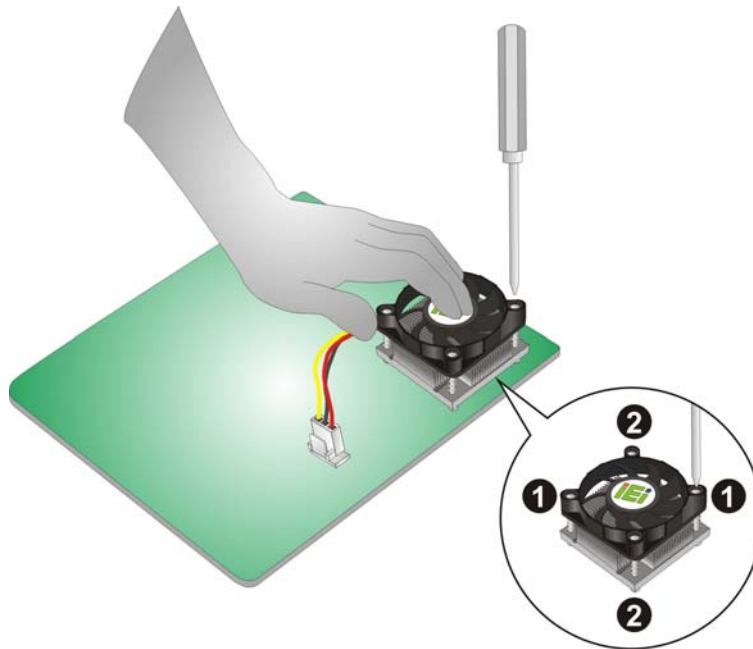

Figure 4-5: Secure the Cooling Kit
- Step 4:** **Place the cooling kit onto the CPU.** Push down the fan with some pressure to secure the cooling kit with the support bracket. See **Figure 4-5**.
- Step 5:** **Tighten the screws.** Use a screwdriver to tighten the four screws. In a diagonal pattern, tighten each screw a few turns then move to the next one, until they are all secured. Do not overtighten the screws. See **Figure 4-5**.